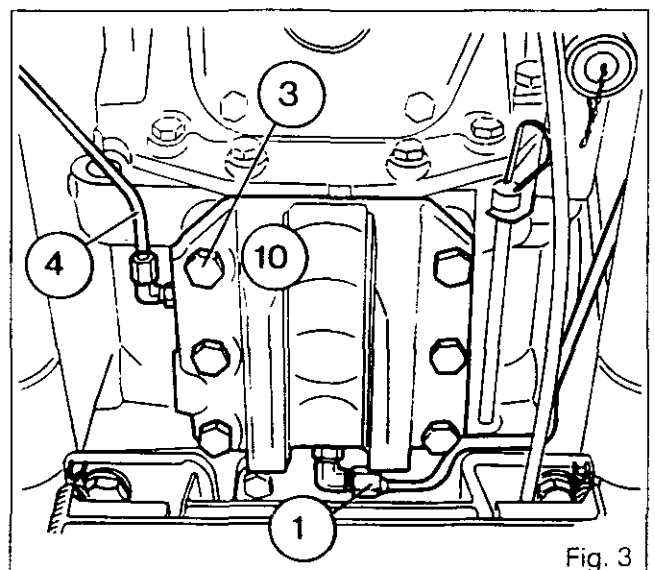
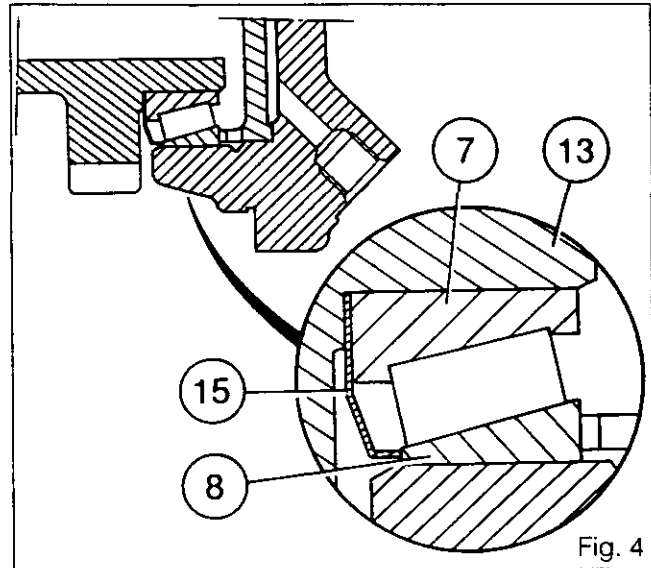
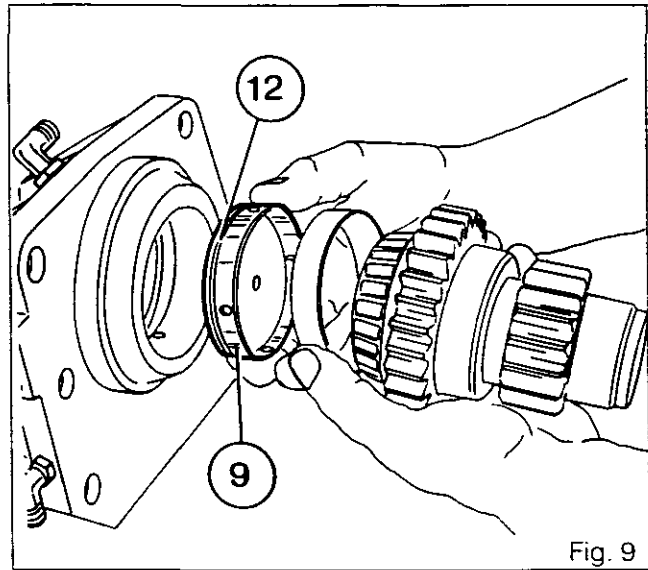

Fig. 3
Fig. 4
Fig. 9
4. Disconnect the supply tube (1) of the PTO brake (Fig. 3).
5. Disconnect the lubrication tube (4) (Fig. 3).
6. Remove the bolts (3) and the top link support (10) (Fig. 3).
7. Withdraw the pinion (13) and shaft (2) assembly held by the washer (5) and screw /6/. Remove the bearing cone (4).
**Note: The shaft (2) is mounted in the clutch (1) without locking screw.**
9. Refit the bearing cone (4). Fit the pinion (13) and shaft (2) assembly held by the washer (5) and screw /6/.
**Note: To ensure the lubrication of the bearing cone (7), a cup plug (36) is fitted without Loctite, recessed into the face of the housing.**
12. Refit the top link support (10). Fit and tighten the bolts (3) to a torque of 130-170 Nm (Fig. 3).
**Note: Ensure that the cup (8) is present.**
13. Reconnect the supply tube of the PTO brake (1) and the lubrication tube (4) (Fig. 3).
22. Disconnect the supply tube (1) from the PTO brake (Fig. 3).
23. Disconnect the lubrication tube (4) (Fig. 3).
24. Remove the bolts (3) of the top link support (Fig. 3) and detach it.
25. Withdraw the pinion (13) and shaft (2) assembly held by the washer (5) and bolt (6).
26. Remove the screw (6) and the washer (5).
27. Separate the pinion (13) from the shaft (2).
**Note:** *The shaft (2) is mounted in the clutch (1) without locking screw.*
**Note:** *A deflector (15) mounted between the pinion (13) and the bearing cone (7), in contact with the cup (8) (Fig.4), has been introduced on 3000 tractors from serial number N120009 onwards.*
45. Fit the piston (9) with a new O-ring (12).
**Note: Position the lubrication holes of the piston toward the bearing cone (Fig. 9).**
46. Fit the cup (8) in the support.
47. Withdraw the pinion (13) and assemble on the shaft (2) with the washer (5) and bolt (6). Tighten to a torque of 50 Nm.
48. Refit the bearing cone (4). Fit the pinion (13) and shaft (2) assembly.
50. Refit the top link support (10). Fit and tighten the bolts (3) to a torque of 130-170 Nm (Fig. 3).
51. Reconnect the supply tube (1) of the PTO brake and the lubrication tube (4) (Fig. 3).